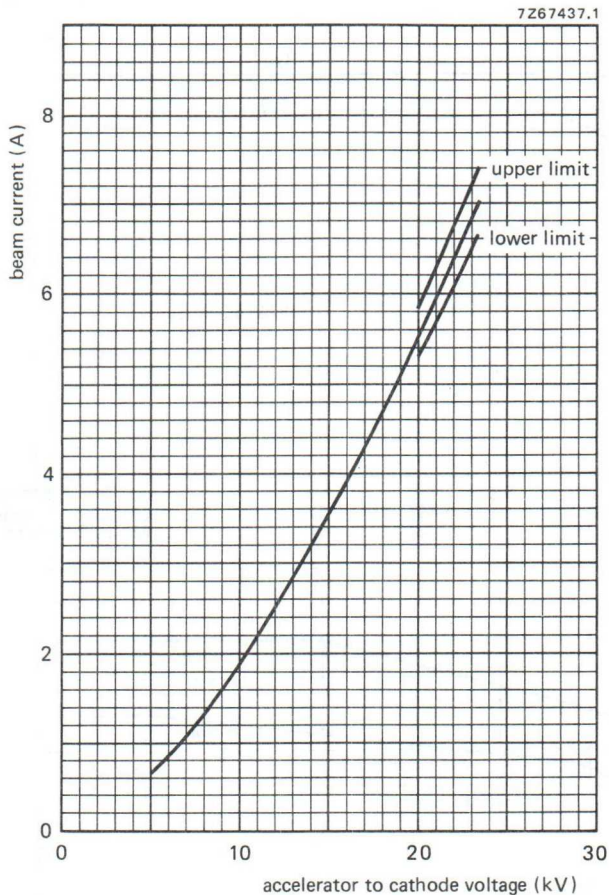

Fig. 4.
6. For beam current (tolerance $\pm$ 5%) versus accelerator-to-cathode voltage, see Fig. 4.